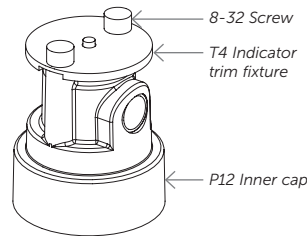

Figure 5.
24. For the normally closed operator side, refer to *Indicator Stem Trim Procedure* and Figure 5.
1. Remove two plugs (P21) from on top of the inner cap (P12). Refer to Figure 5. Attach the indicator stem trim fixture (T4) to the inner cap (P12) using the two 8-32 screws provided.